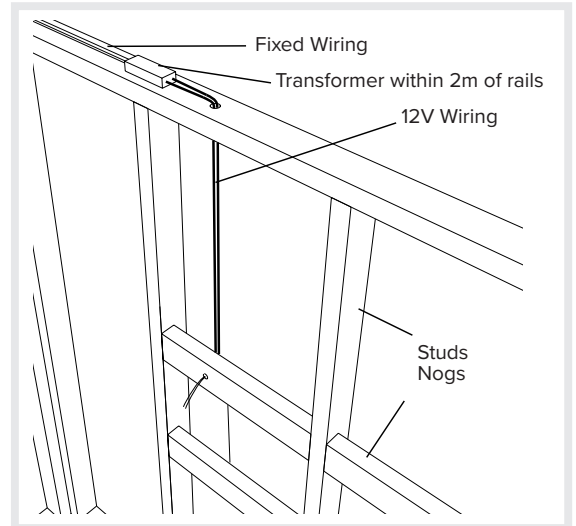

Figure 1.0
The Titan towel rail must be wired by a registered electrician. A mains supply (230v-240v) isolating switch must be positioned near the towel rail but out of reach from wet areas like baths and showers. A wall or ceiling cavity must be available to conceal the transformer. **Each single rail must be connected to one 12 Volt transformer** and cannot be connected directly to 240V supply. See Figure 6.0. Only one end of the pole should be connected to the power source. The other end will need to have the wires terminated as there are 2 separate looms in the rail. See Figure 1.0 and 4b
The towel rail mounting spigot must be fastened to a solid fixing point, eg. timber or brickwork. The mounting face of the towel pole **must be fitted against a solid surface** eg. tiles (not suitable directly onto gib or plasterboard). Recommended location is 600mm above floor, 300mm from any permanent fixing and 250mm between poles. See Figure 1.0
- Typical wiring for timber framed walls is shown in *Figure 1.0*
- Refer to figure 1.0. Run your wires through the wall as required. Make sure your wires are preinstalled outside your nog where you intend your rail to be installed.
- Wire requires threading through the 9mm spigot hole and leaving till after gib/tile for installation of rail (see *figure 1.0*) and connecting to the 12V transformer.